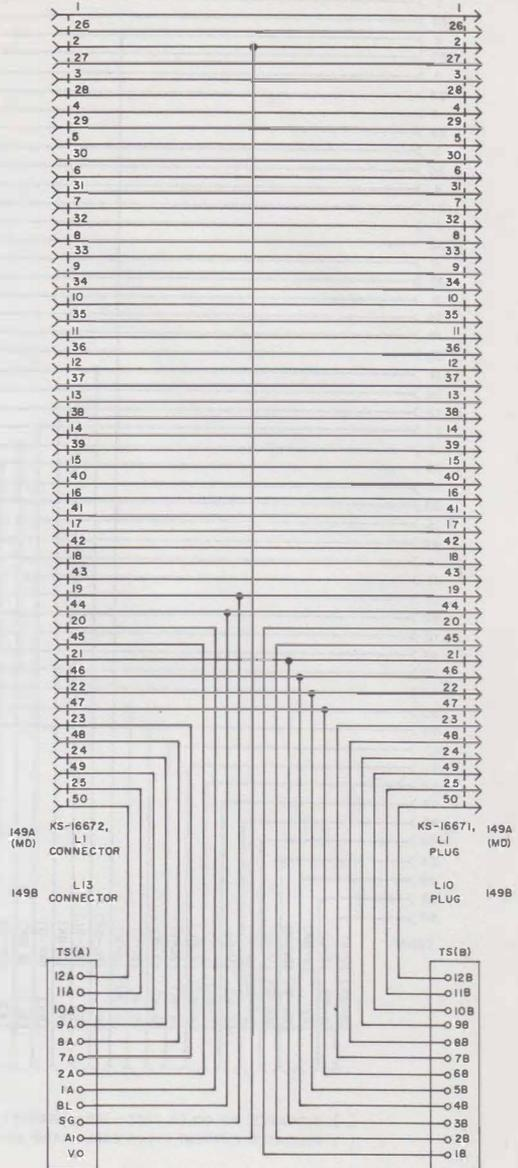
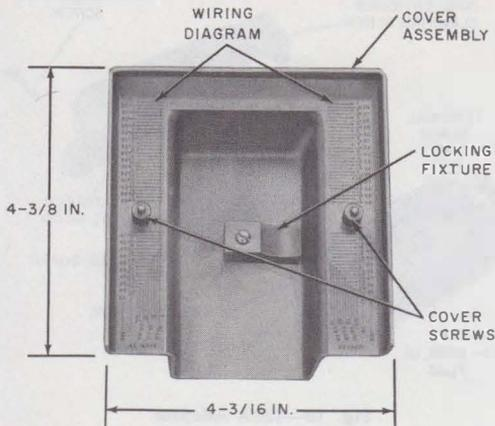

Fig. 5—149A (MD) and 149B Adapter, Schematic
Fig. 6—149B Adapter, Inside Cover
- The plug and connector are wired as shown in Fig. 5. Terminal strip A is wired to
- Has a removable high-impact polystyrene cover (Fig. 6).
- A reversible locking fixture attached to the inside of the cover (Fig. 6) secures an external plug (KS-16689 L1 plug-ended cord) to the KS-16672 L13 connector.
- The wiring diagram (Fig. 5) is also molded into the inner surface of the cover assembly (Fig. 6).